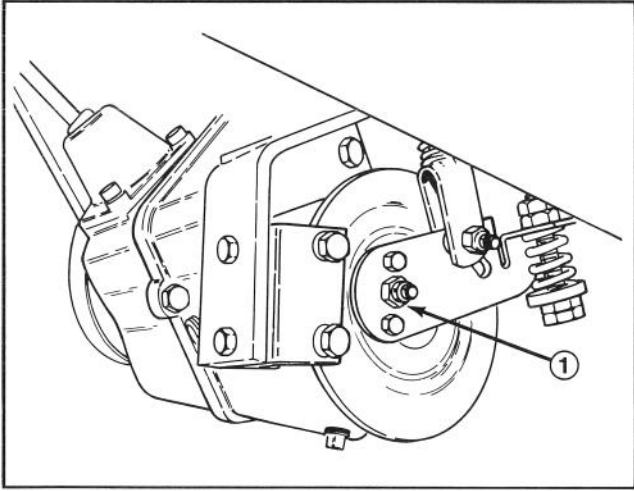

Figure 50
2. Tighten the caliper brake adjustment nut (Fig. 50) until the brake disc cannot be rotated by hand.